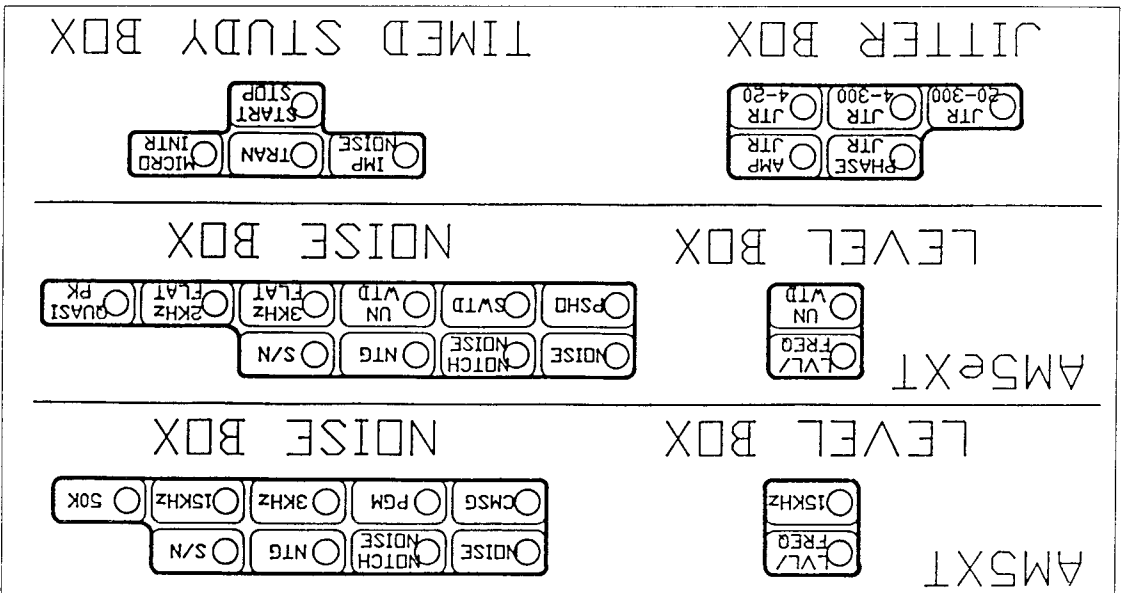

Figure 9-2. Function Boxes
This function is part of the Level (Function) Box as shown in Fig. 9-2. It is a low-pass filter, connected to the front end of the measurement circuitry, effectively eliminating high-frequency components. For AM5XT, this is a 15 kHz filter; for AM5eXT, a sound-unweighted filter (30 Hz to 20 kHz).
Noise weighting filters are part of the Noise (Function) Box as shown in Fig. 9-2. If a noise measurement is to be made with a noise weighting filter, there are five (5) noise weighting filters from which to choose. Only one (1) of the filters (or none) can be selected for a given noise measurement. The possible filters are listed in Table 9-1.
The Start/Stop function is part of the Timed Study (Function) Box as shown in Fig. 9-2. It is used to Start/Stop the Timed Study tests enclosed in the Timed Study Box:
The three (3) Jitter Bandwidth Weighting Filters are part of the Jitter (Function) Box as shown in Fig. 9-2. When making Phase Jitter or Amplitude Jitter measurements, one (1) of these Bandwidths must be chosen for the test. Therefore, one (1) of the Jitter Bandwidth LEDs will always be on, indicating the Bandwidth selected.